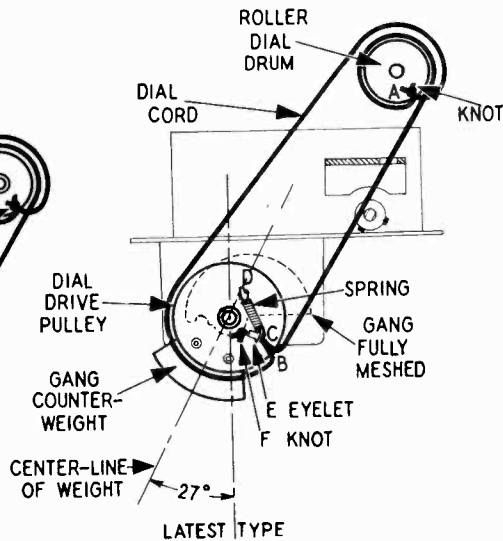

FIG. 14
Refer to Fig. 14. The purpose of the counter weight shown in this illustration is to counter balance the weight must be in the position illustrated in Fig. 14 when the gang condenser is straight up and down with the gang condenser fully meshed. When replacing the dial drive drum, always check to see that this weight is in the position described above, as the tuning unit may not operate satisfactorily.
The method marked "Latest Type" (Fig. 14) is the best but uses a different Dial Drive Pulley. Therefore early type or second type drives **cannot** be restrung as shown for latest type unless a new Dial Drive Pulley (Stewart-Warner Part No. 118176, Hudson Part No. BO-161539) is installed.
4. Rotate the gang condenser so its plates are fully meshed. (See Fig. 14.) Keep the gang in this position until the dial cord has been replaced.
6. Pass both ends of the cord outward through hole A in the roller dial drum. (Fig. 14.)
10. Tie a spring to the ends of the cord inside the dial drive pulley so that the cord extends about $\frac{3}{8}$ inch inside the pulley when the cord is pulled taut. See Fig. 14. This illustration shows the recommended method of fastening the spring using an eyelet. Fasten the other end of the spring to the tab D on the pulley. The spring should be stretched only very slightly when in place. Too much spring tension may cause binding.